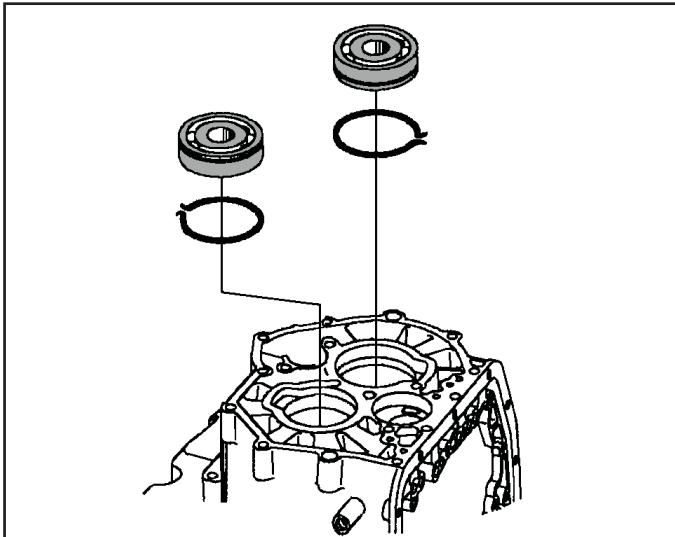

Figure 81
37. To remove the input and output shaft case bearings from the transaxle case, use a suitable pair of snap ring pliers to EXPAND the ring far enough to slide the bearing out of its bore by hand (See Figure 81).